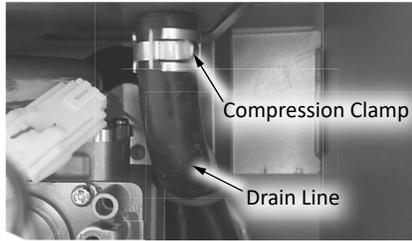

Figure 48: Drain line.
- 21 Disconnect the rubber drain tube (# 416) from the bottom right of the secondary heat exchanger. The connection uses a compression clamp and will require pliers to move the clamp. See Figure 48.
36 Reconnect the rubber drain line to the bottom of the secondary heat exchanger. See Figure 48.